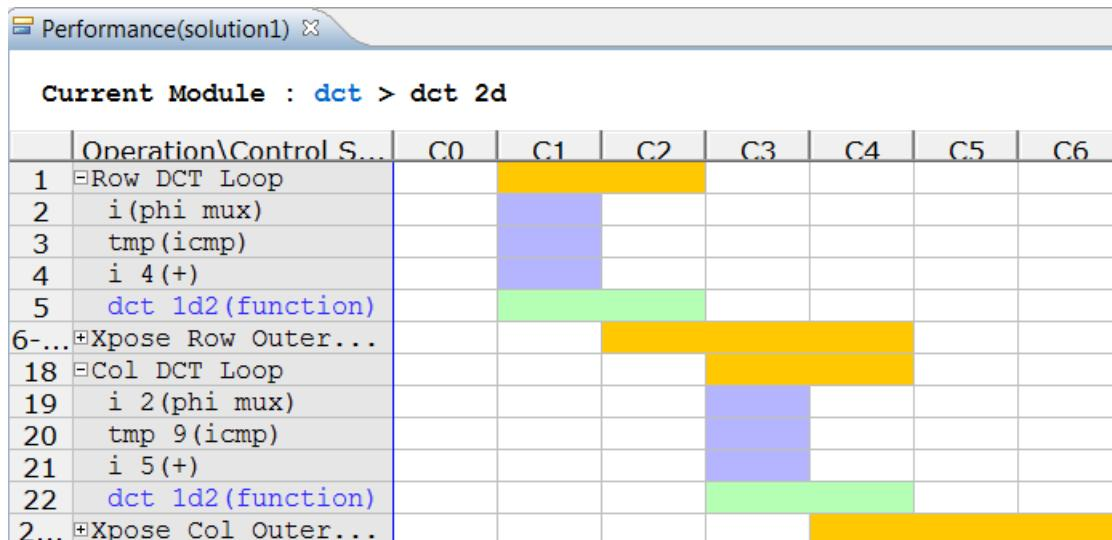

Figure 6-11: DCT_2D Performance View
6. In the Module Hierarchy pane, click the function **dct_2d** to navigate into the view for this function (Figure 6-11).
In the Performance Profile you can see that the latency of all the loops has been substantially reduced (Row_DCT_Loop and Col_DCT_Loop have been approximately halved from the earlier report in Figure 6-11). However, the majority of the latency is still due to these two loops, each of which calls the `dct_1d` block.